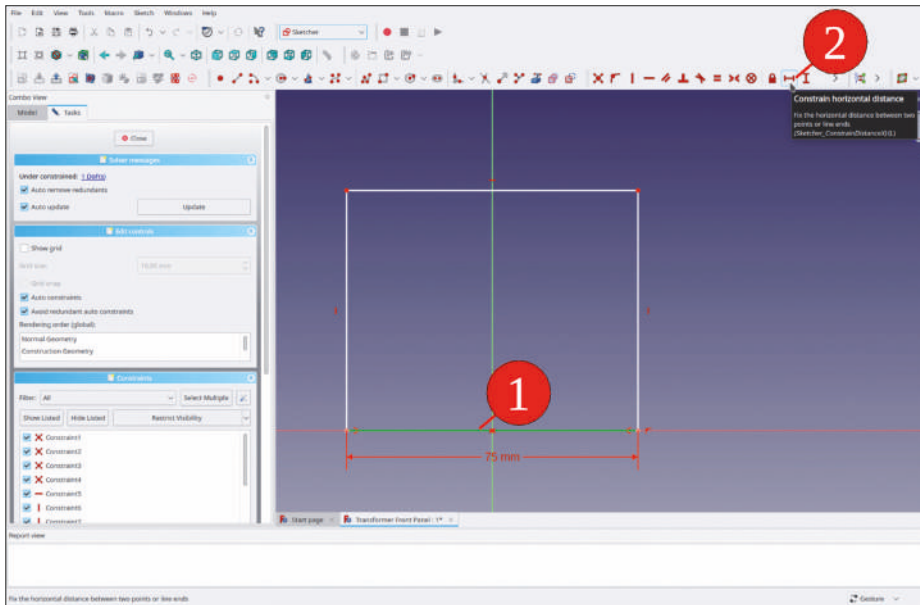

Figure 9-5
5. Mark a horizontal line of the rectangle and click the 'Constrain horizontal distance' tool button. Enter a value of 75 mm for the width (Figure 9-5). In a similar way, constrain the vertical dimension of the rectangle to 90 mm. The sketch is then shown in bright green, as fully constrained. Close the sketch (top).